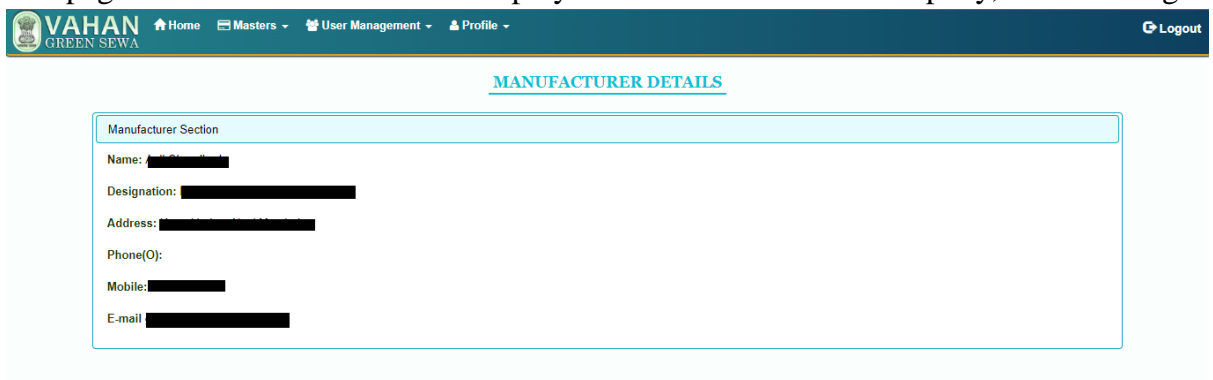

Figure 2: Snapshot of Manufacturers' details (obtained after admin login)
2. The page “Manufacturers Details” displays certain details of the company, shown in Figure2.